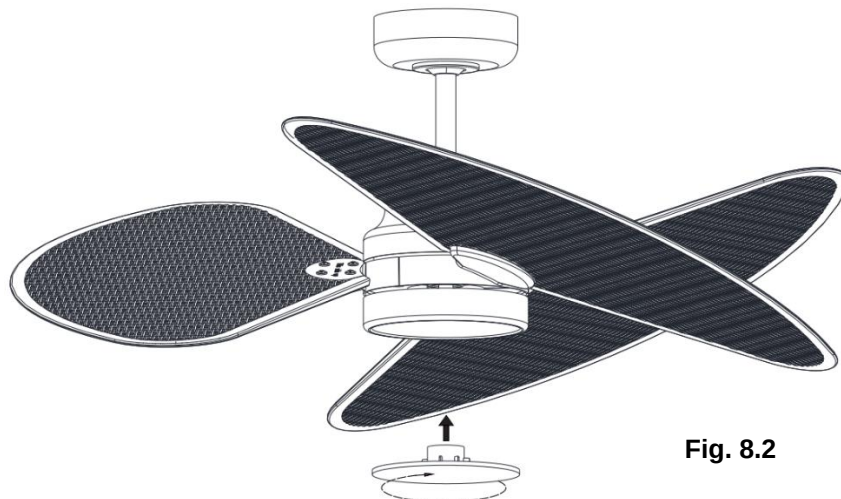

Fig. 8.2
- Install the non-light decoration plate on the light bracket. (Fig. 8.2)